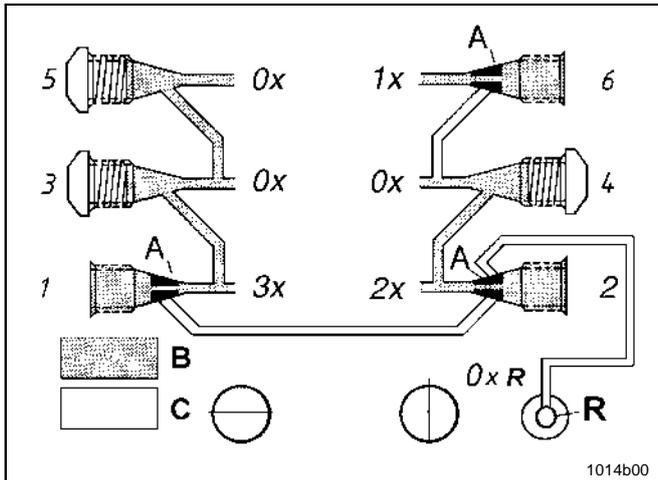

Fig. 1 Single double and triple lubricant output, on back-mounted metering devices
A single output is the lubricant quantity fed to the lube point by a piston per stroke and outlet port. **It amounts to approximately 0.2 cm³**, see outlet 6, fig. 1.
- Lubricant from a plugged outlet is redirected to the next outlet on the same side of the SSV divider block in descending numerical order (see fig.1).
- Example, see fig. 1:
- Install a closure plug in each outlet port that is not required, see fig. 1 or 4.
- Closure plugs are used in fig. 1 and 4 as follows:
- Fig. 1 outlets 3, 4 and 5
- Install a check valve in each outlet port that is required, see fig. 1 or 4. Observe paragraph "Direct (internal) feed-back feature" (see page 8).
- Check valves are used in fig. 1 and 4 as follows:
- Fig. 1 outlets 1, 2 and 6
- All pumps with **back-mounted SSV metering device** have the capability to feed back unused lubricant internally from closed outlets directly to the reservoir (see pos. R fig. 1, 4).
- The remaining outlets are to be used for the connection to the lube point or for increasing the lubricant output (double or triple), see fig.1.
If **outlet 2** is connected to a lube point, then **never close outlet 1**, see clamping ring (A) in outlet 2, **fig. 1**.